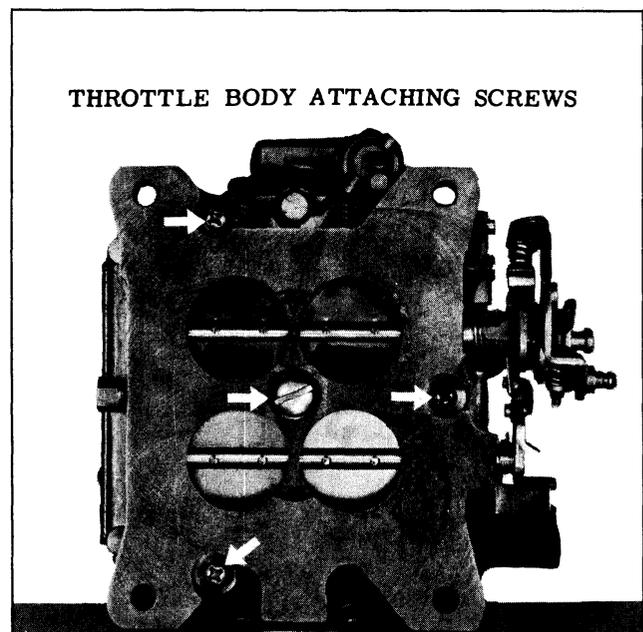

Fig. 8-99 Throttle Flange Attaching Screws
9. Remove the four throttle flange to carburetor body attaching screws. (See Fig. 8-99) Then remove throttle flange gasket and carburetor body.